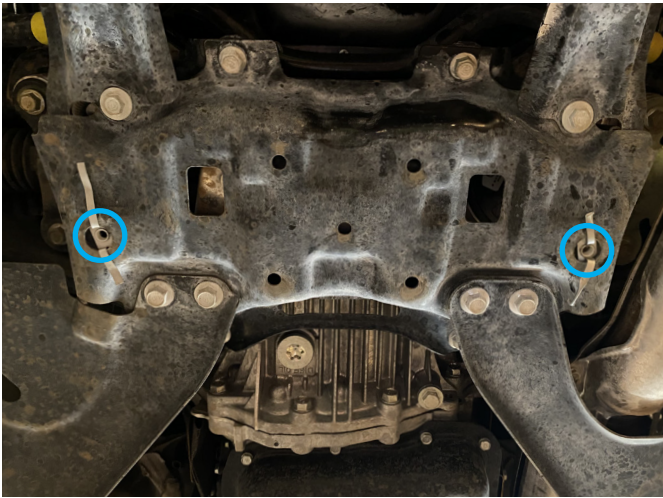

Fig.9
8. Loosely install M8x25 bolts and M8 washers (Items. A, B) to previously installed insert nuts (Item. D), as marked in Fig. 9.